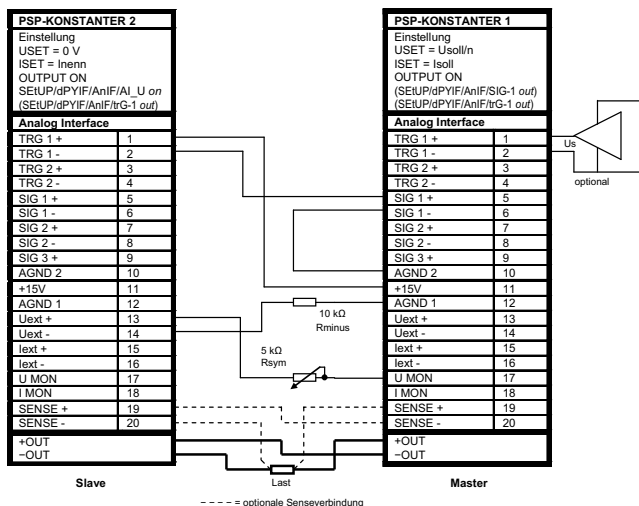

Figure 7.10.2 Wiring for Series Master Connection
- Connect master and slave devices as shown in figure 7.10.2.
- In order to assure that the slaves' OUTPUT ON status is activated along with the master's OUTPUT ON status via the signal output and trigger input circuit as shown in figure 7.10.2, "SETUP/dPYIF/AnIF/SiG-(x1) out" must be selected at the master and "SETUP/dPYIF/AnIF/trG-(x2) out" must be selected at the slaves – (x1) and (x2) in example 1. The master's OUTPUT ON status can be optionally controlled via the trigger input – setting at the master: "SETUP/dPYIF/AnIF/trG-(x3) out", (x3) in example 1.